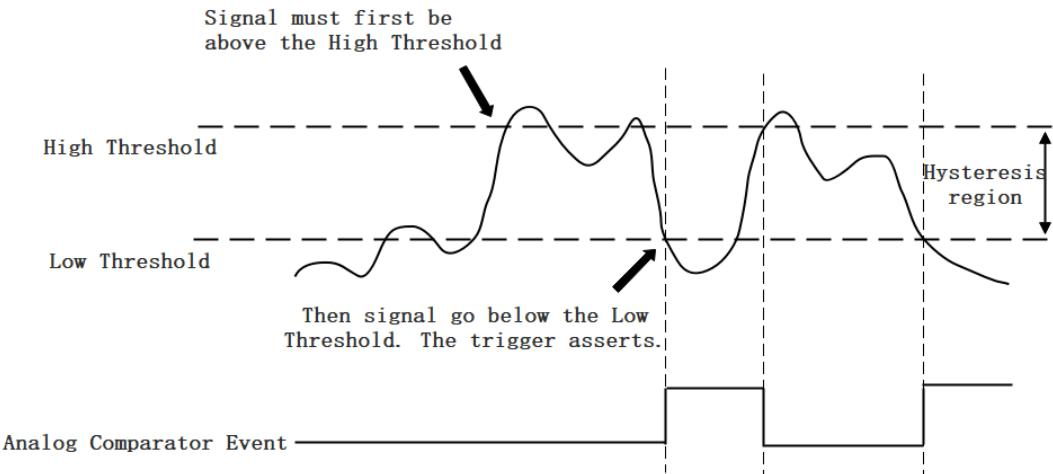

Figure 20 Hysteresis with Falling Slope Trigger
*Hysteresis with Falling Slope Trigger:* The Hysteresis comparator output is high when the signal must first be above the high threshold, then goes below the low threshold. The output will change to low when the signal goes above the high threshold as shown in Figure 20.